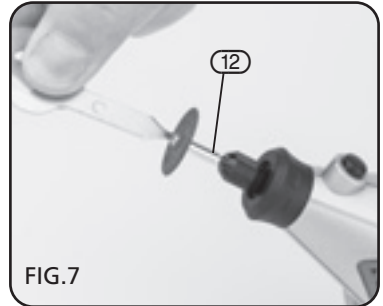

FIG.7
8.5 FITTING A CUTTING/SANDING DISC - FIG. 7